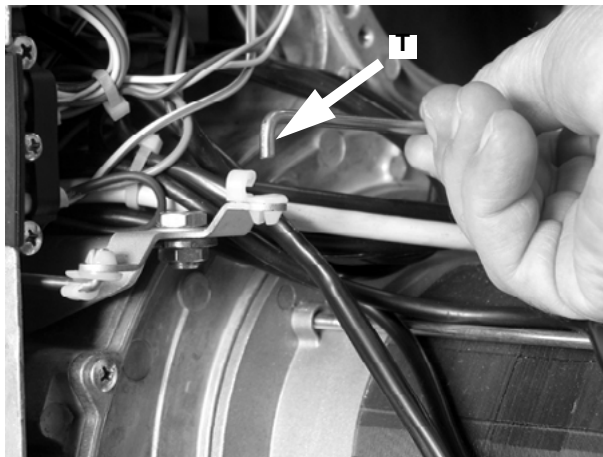

Fig. 57
- Remove the rod **T** from its housing as shown in Fig. 57.
- Refit the rod **T** (Fig. 57).